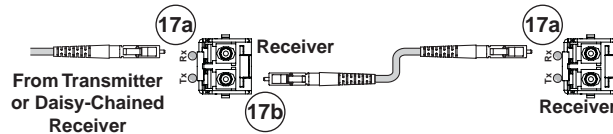

Figure 6. Daisy Chain Configuration
- One way (transmitter to receiver) with daisy chain (receiver to receiver)** — Connect fiber cable 17a from a fiber optic source and cable 17b to the next receiver in the daisy chain. See figure 6. Set each receiver in the daisy chain to daisy chain mode. Up to 10 properly-configured receivers can be connected in a daisy chain to a single transmitter.
Daisy chain configuration — For daisy-chained video, audio, and serial communications to the Rx connector on another receiver. See figure 6.